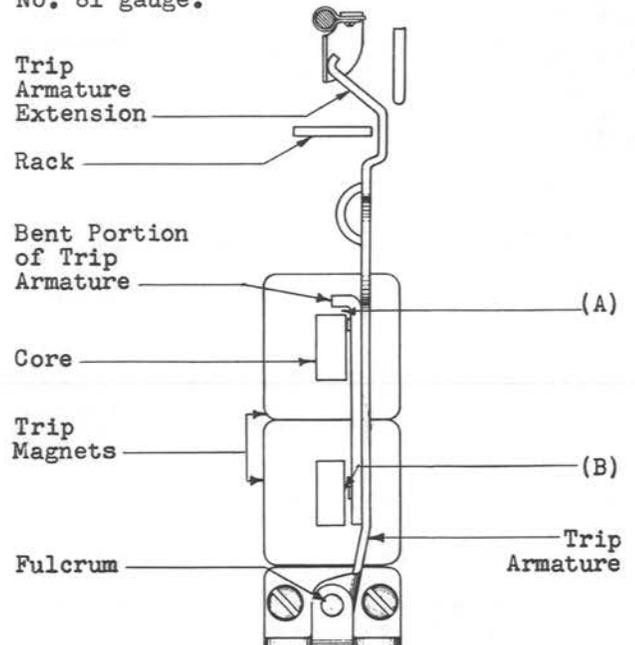

Fig. 7 - Trip Magnet and Associated Parts
2.07 Clearance Between Non-freezing Disc on Trip Armature and Core Nearer Fulcrum - Fig. 7 (B): With the trip armature fully operated electrically, the clearance between the non-freezing disc on the trip armature and the core nearer the fulcrum shall be